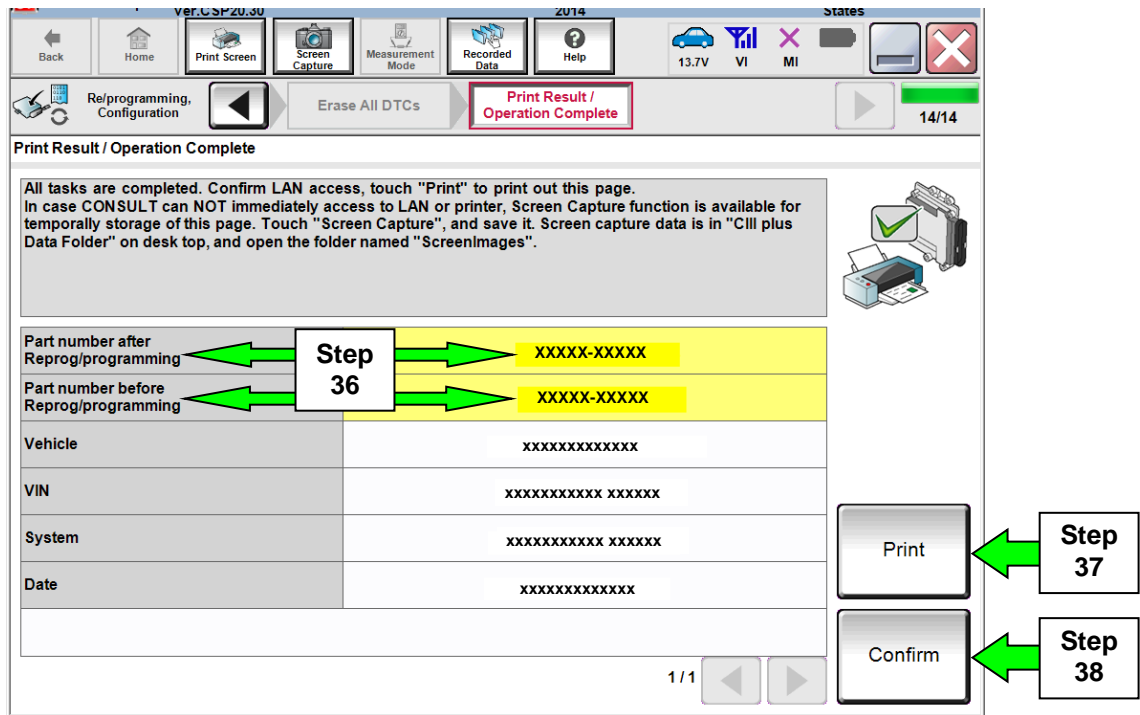

Figure 24
35. When the entire reprogramming process is complete, the screen in Figure 24 will display.
37. Print a copy of this screen (Figure 24) and attach it to the repair order for warranty documentation.